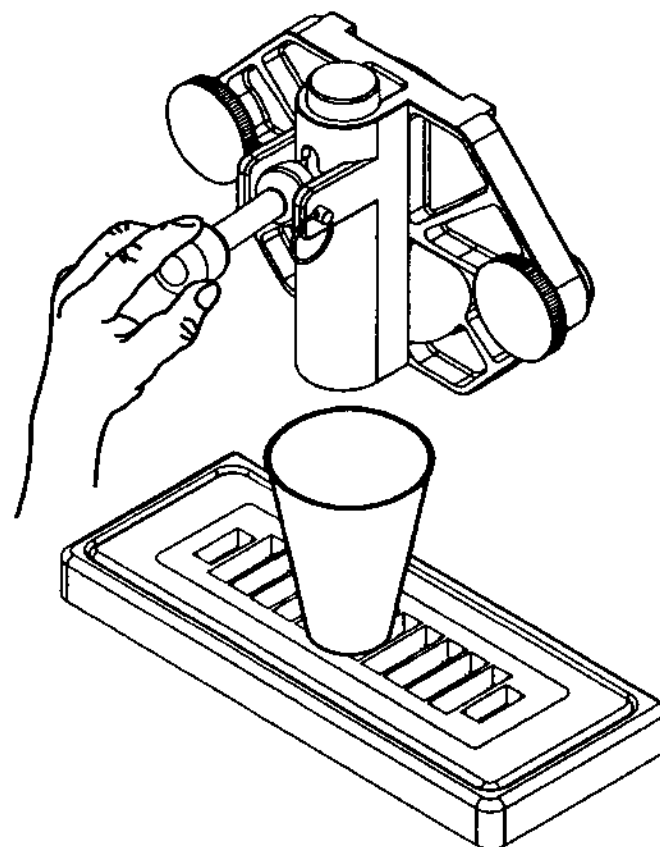

Fig. 24
2. Using approximately one half to one gallon of fresh product mix, chase the sanitizing solution from the mix pan by pouring behind any remaining solution which will then drain through the machine. Doing so will ensure that sanitizing solution will not remain in the machine to freeze or be served to the customer. Open the spigot plunger and dispense enough of the liquid to purge the system of sanitizing solution (Fig. 24).